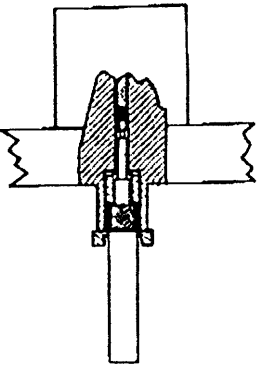

Figure 5
4) Insert the adaptor/contact assembly into the hexagonal section of the PLIERS CRIMPING 9A. Push the assembly fully in against the contact plunger as figure 5.